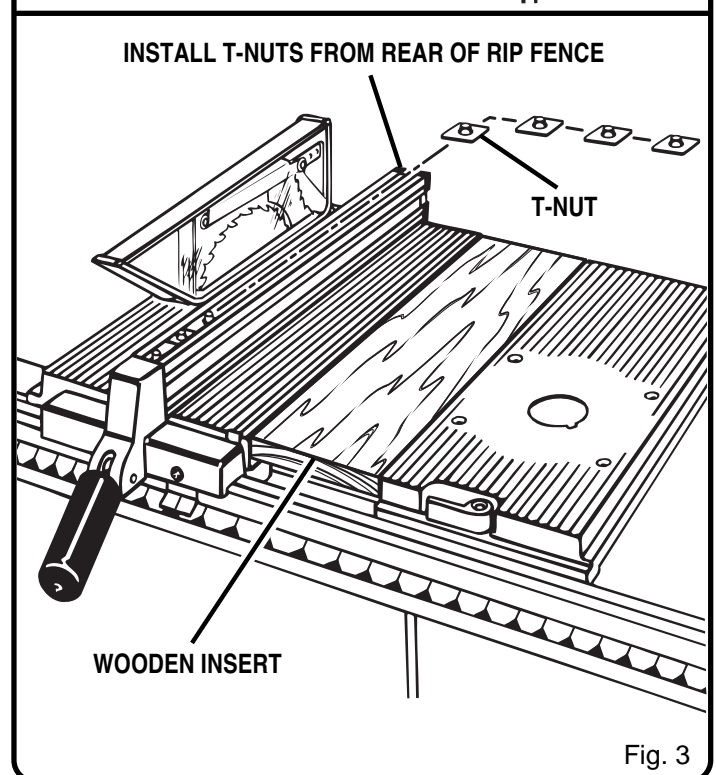

Fig. 3
- Slide the four remaining T-nuts into the top channel of rip fence. See Figure 3.